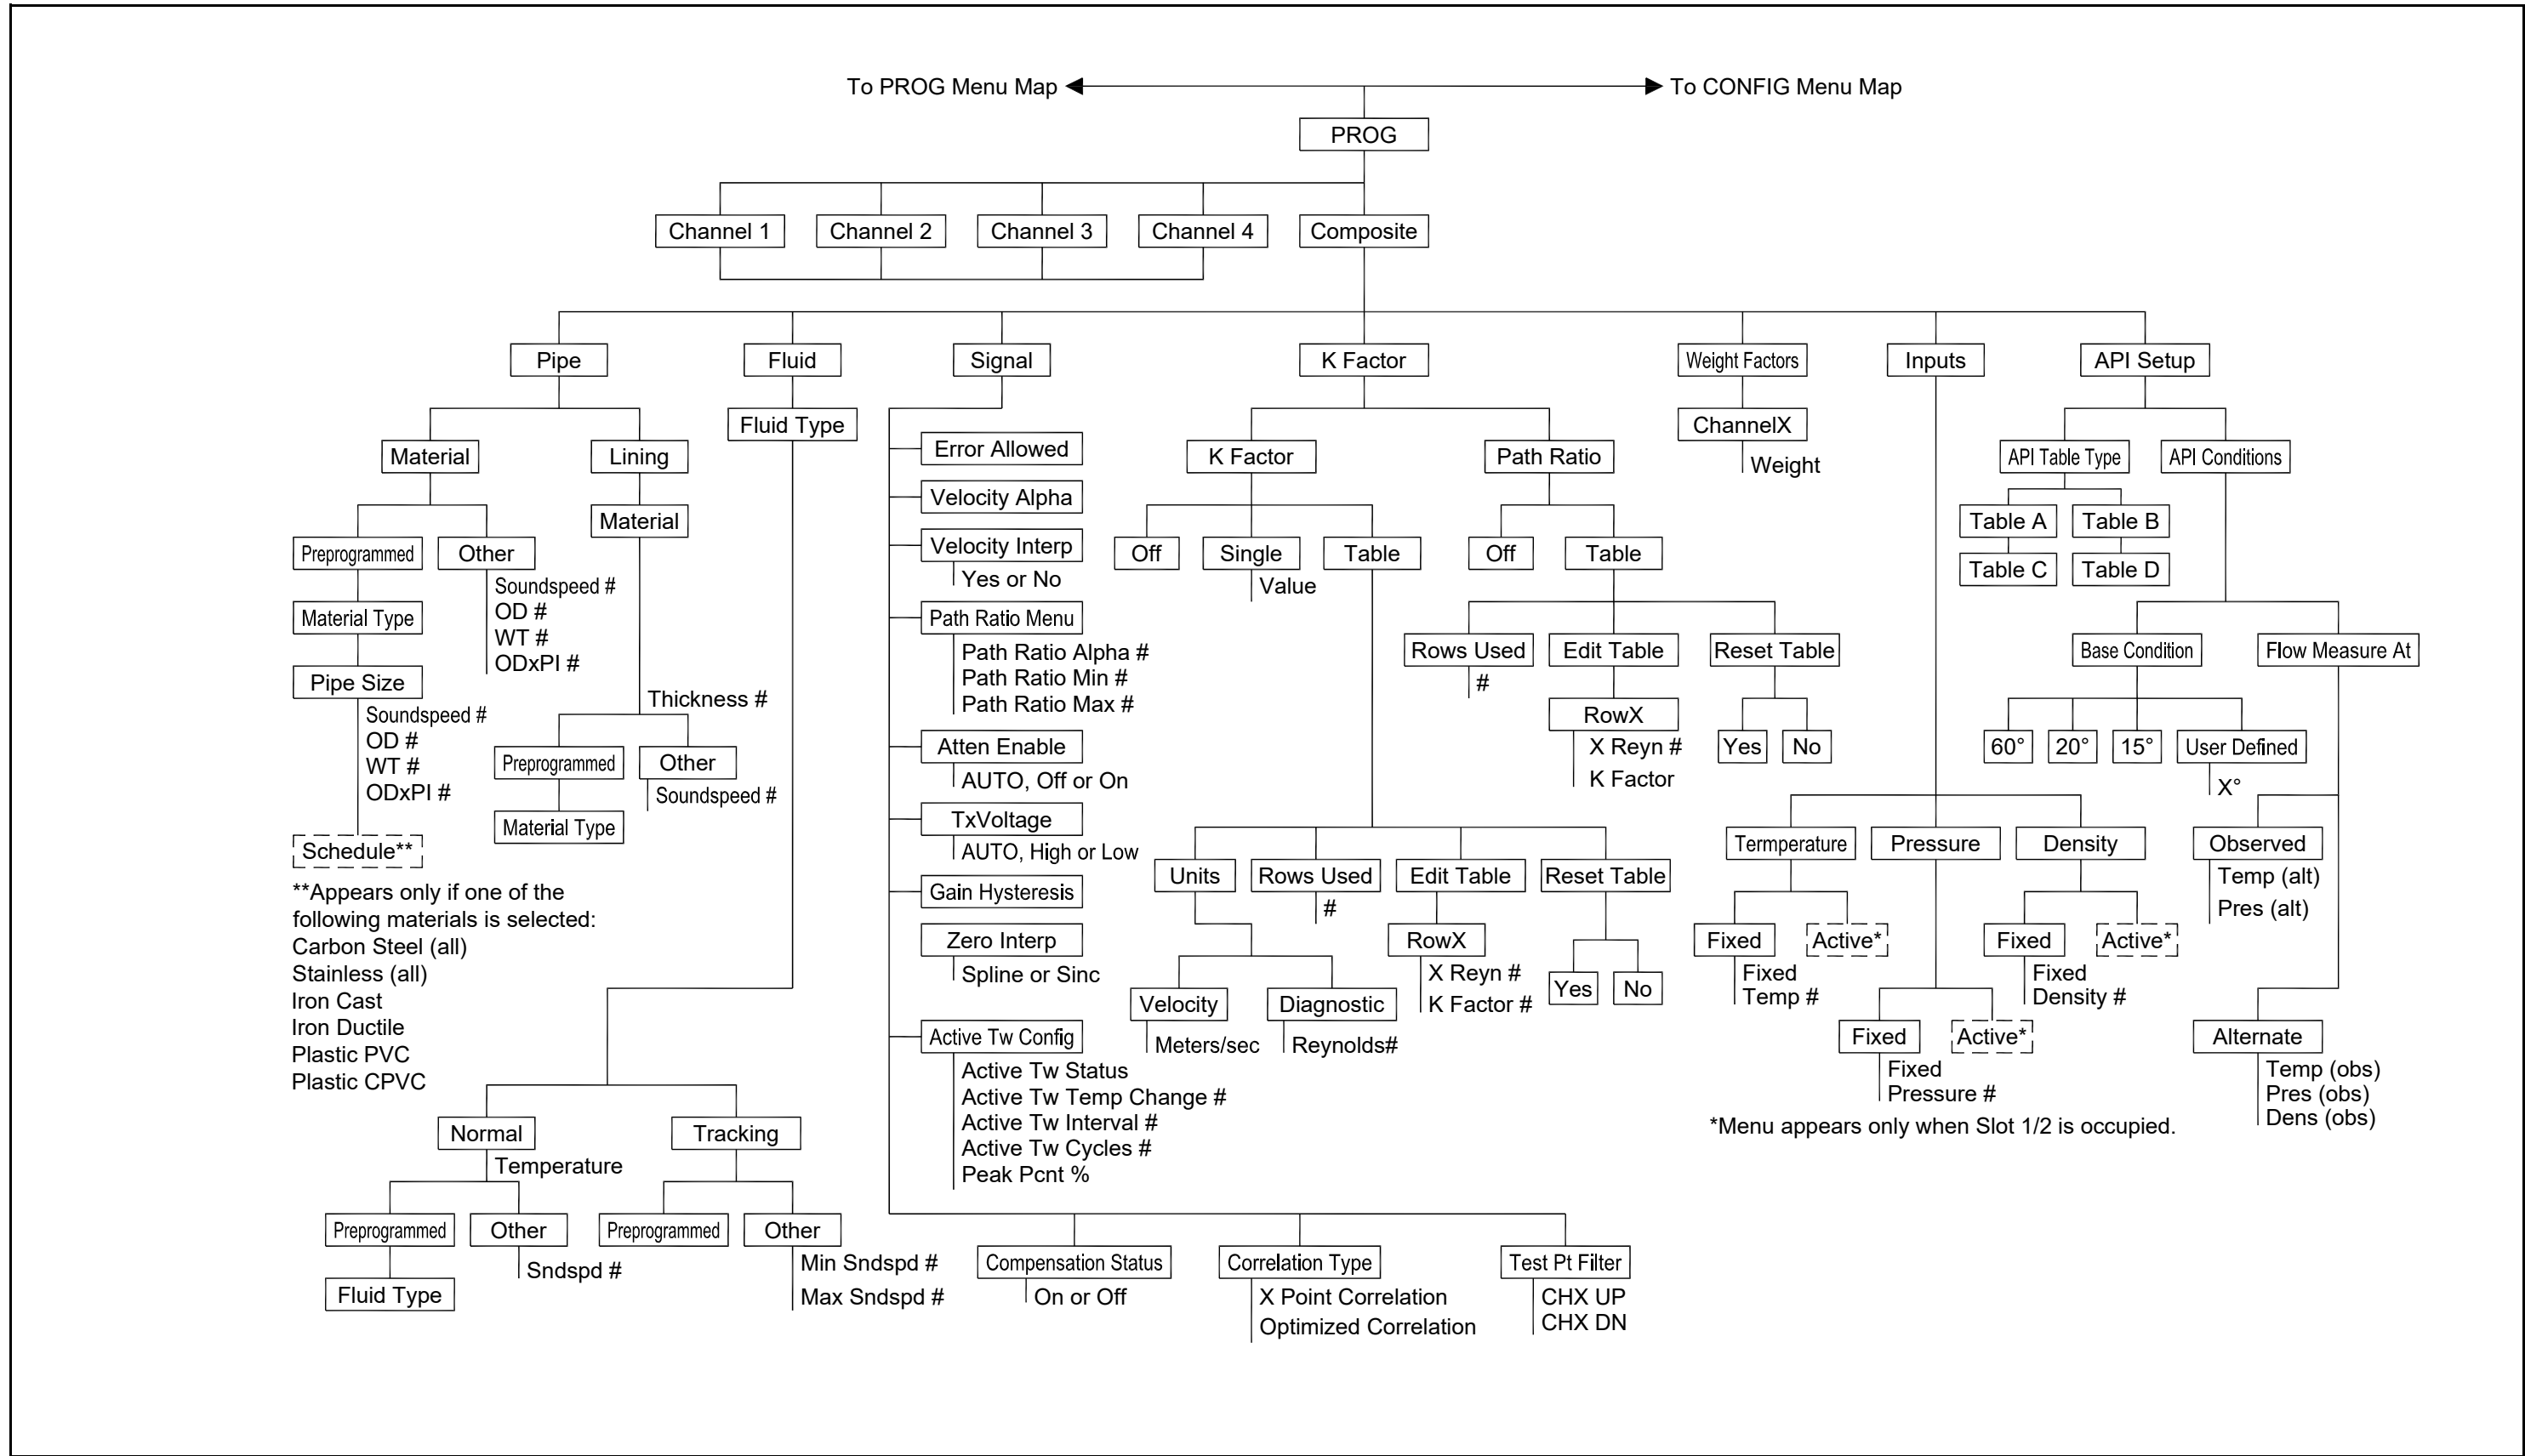

Figure 234: PROG Composite Menu Map
- Figure 234: PROG Composite Menu Map